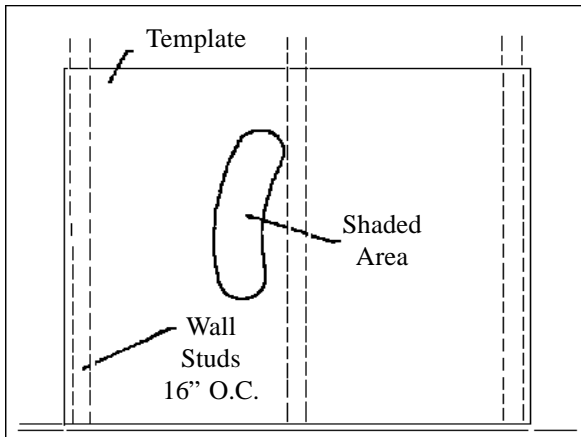

FIGURE 6
- c) Mark location for 3-1/2" diameter hole between studs. Hole should be offset to miss studs. (See Figure 6).